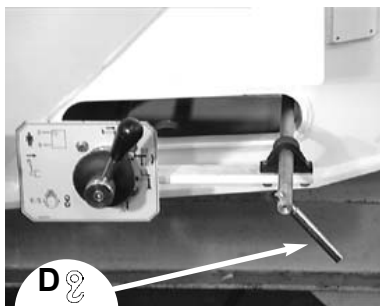

fig. 13a
- Enable the crane by taking lever **D** controlling the crane/outriggers oil-diverter (☞ - **E/S**) to position ☞ fig. 13a-15a.